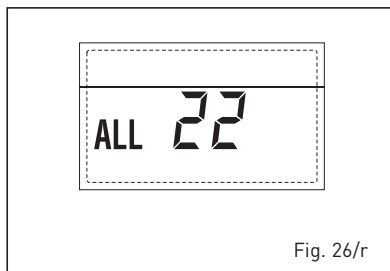

Fig. 26/r
– **ANOMALIA GUASTO SONDA MANDATA SECONDA ZONA MISCELATA "ALL 23" (fig. 26/s)**